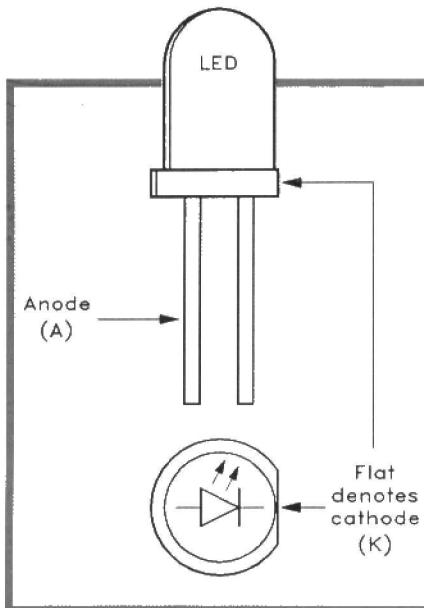

Figure 4. LED symbol and connections (LD1, LD2).
b) Next fit the LEDs, LD1 and LD2, which are both of the same type. Each is a 'blob' of clear red plastic, with two wires coming out of one end. They are fitted in the positions shown on the guide-sheet, and *must* be connected the right way round – or they will not light up. One side of each LED is flattened (the lead on this side of the LED is known as the cathode (K)), while the lead on the other rounded side, is called the anode (A). The LED, the circuit symbol and connections are shown in Figure 4. Make sure that the LEDs are fitted so that the 'flattened' sides line up with the drawing of the LED printed on the guide-sheet.